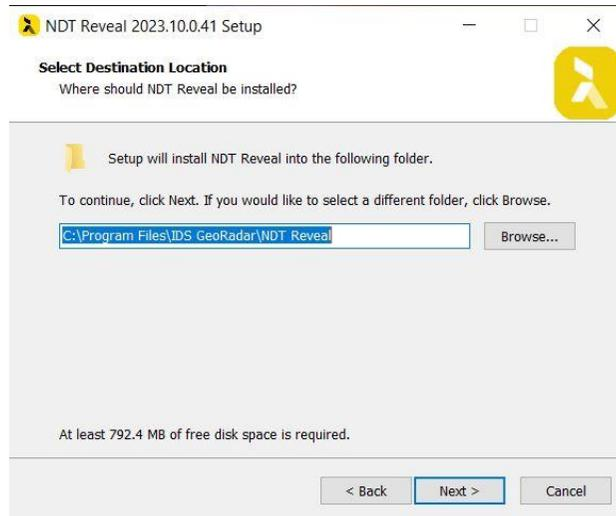

Fig. 3 Select Installation Directory
3. Select **NDT Reveal** destination folder for installation and press NEXT (Fig. 3),